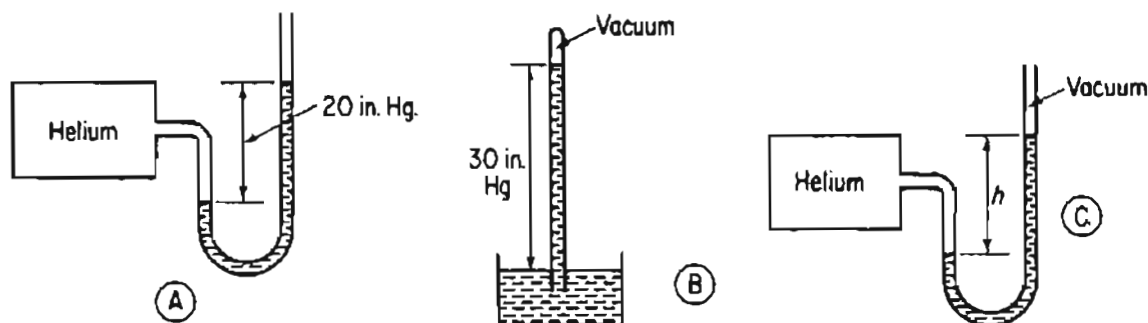

Figure SAT5.2P2A
- a. What kind of pressure is measured by the device in Figure SAT5.2P2A?
- b. What kind of pressure is measured by the device in Figure SAT5.2P2B?
- c. What would be the reading in Figure SAT5.2P2C assuming that the pressure and temperature inside and outside the helium tank are the same as in parts (a) and (b)?
- b. Lowering the He pressure in Figure SAT5.2P2A (see the SAT problems in Section 5.2) will not cause the length of the column of Hg to decrease by 10%.